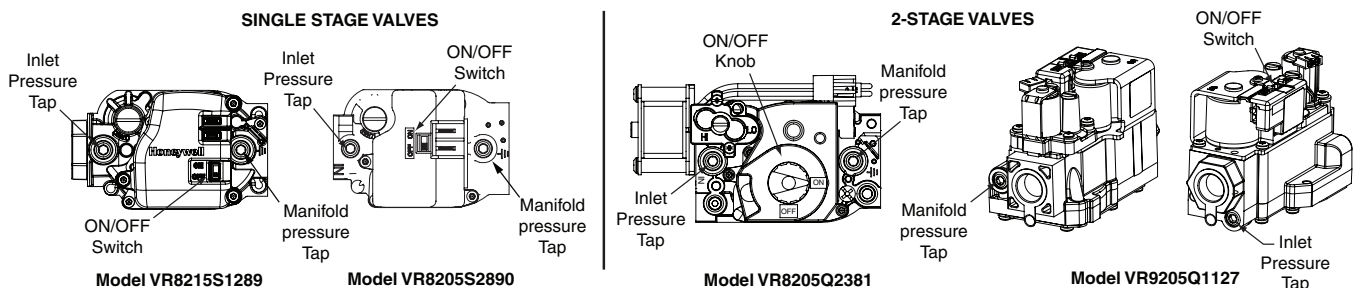

Figure 6. Inlet & Manifold Pressure Tap Locations
- Using a 3/16" Allen wrench, remove the plug from the inlet pressure tap (INLET side of gas valve). See Figure 6.
- Place the gas valve ON/OFF switch/knob to the ON position. See Figure 6.
3. Using a 3/16" Allen wrench, remove the manifold pressure tap plug located on the outlet side of the gas valve. See Figure 6 (page 6).